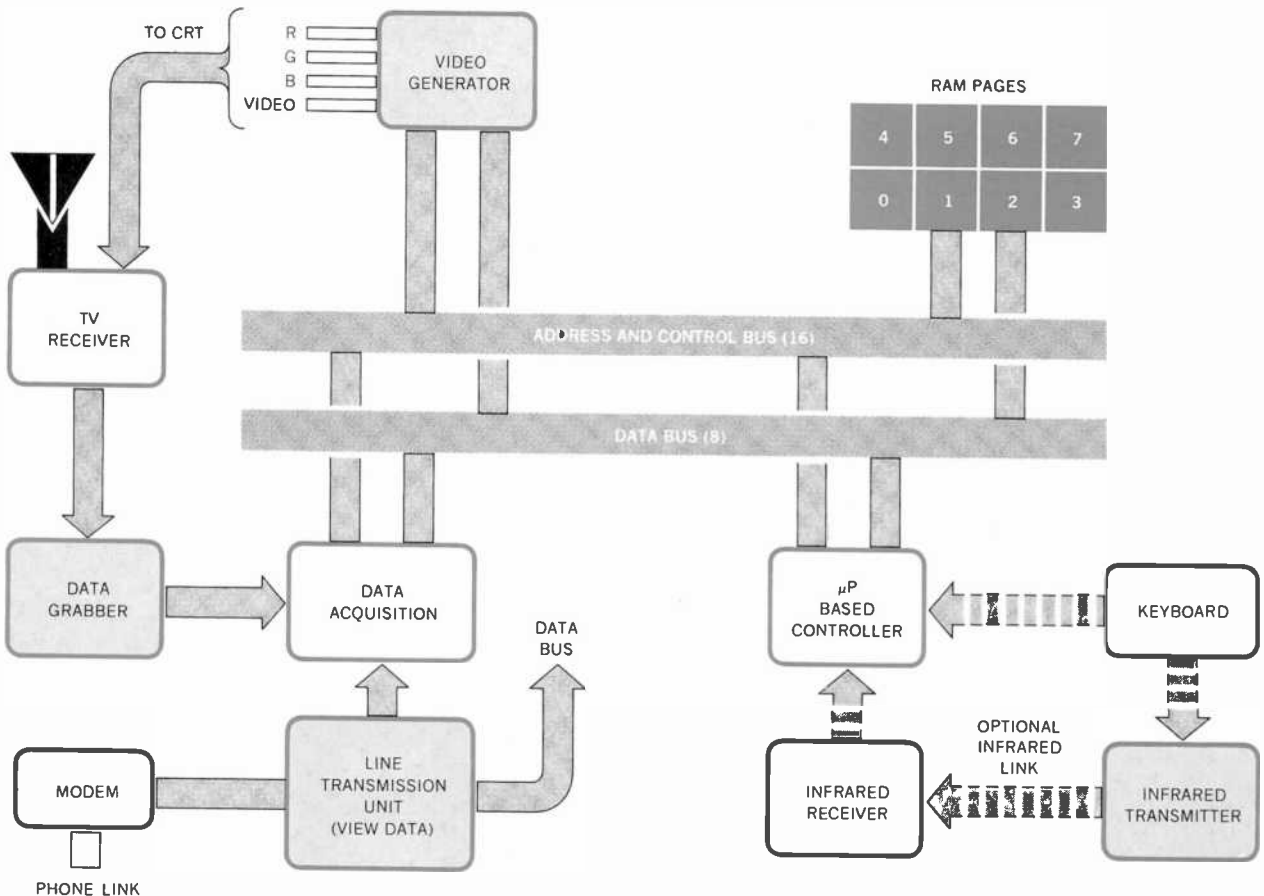

Fig. 12. General Instrument Corp.'s version of Teletext is called Teleview.
**Teleview.** General Instrument Corporation's version of a Teletext receiver is shown in block form in Fig. 12. This "Teleview" approach is similar to the British approach and looks like a basic computer. It uses a microprocessor-based controller that also contains an "operating system" in built-in ROM, RAM to store data, a video generator to drive the CRT color and luminance circuits, and a data acquisition module that accepts the Teletext data removed from the vertical interval by the Data Grabber.